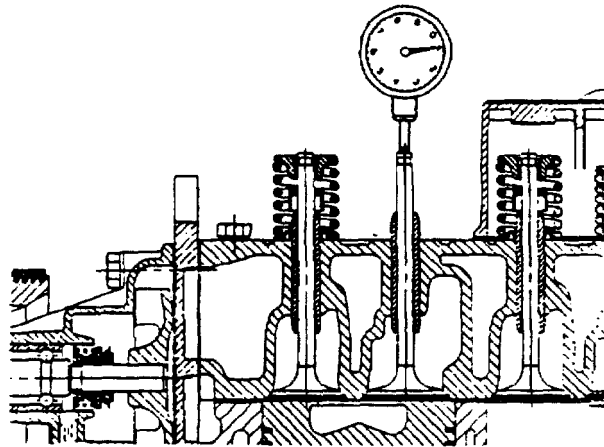

FIGURE 3-10. Checking Piston Drop
- e. Valve can now be depressed until head of valve rests on top of piston. Refer to FIGURE 3-10.
- t. Mount a dial indicator. Refer to FIGURE 3-10 to cylinder head to check intake valve drop. Carefully turn engine a small amount either side of TDC and dial indicator can be zeroed at TDC.